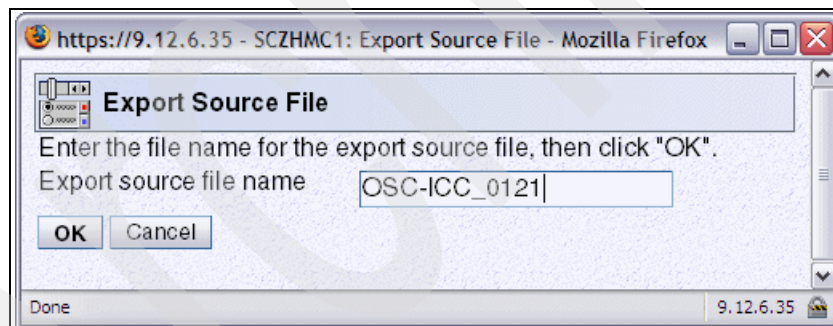

Figure 4-42 HMC - OSA Advanced Facilities (Export filename)
8. The task requests a file name to be written onto the installed Media device. In our example we entered OSC-ICC_0220 (Figure 4-42). Click **OK**.